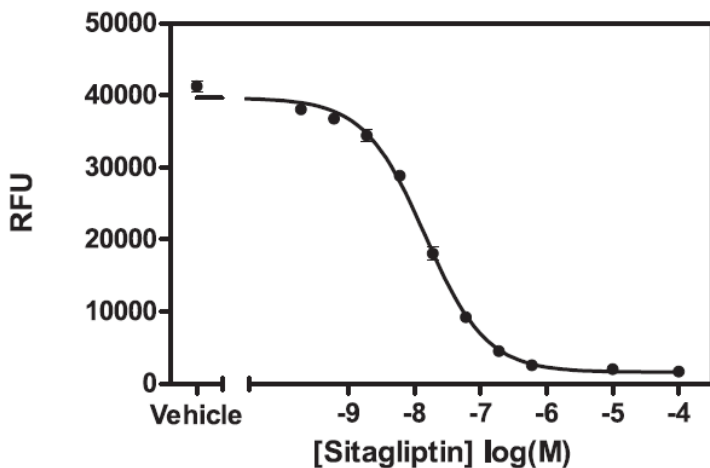

Figure 2. Inhibition of DPP4 by Sitagliptin. Vehicle represents 100 % initial activity.
4. If multiple concentrations of inhibitor are tested, graph either the Percent Inhibition or Percent Initial Activity as a function of the inhibitor concentration to determine the IC_{50} value (concentration at which there was 50% inhibition). An example of DPP4 inhibition by Sitagliptin is shown in Figure 2.